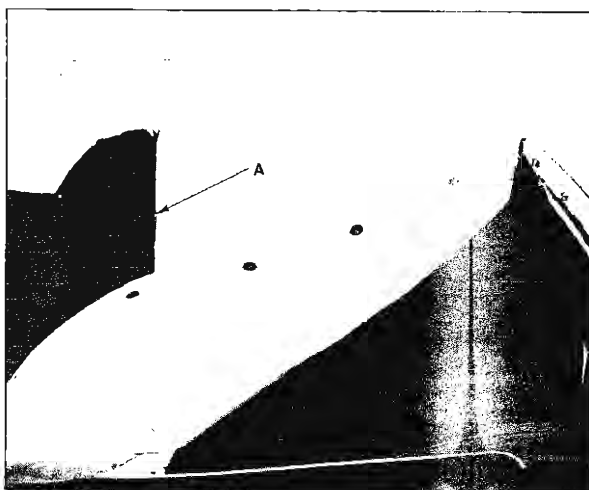

Fig. 21-14 Top Boot Partially Installed
2. Place top boot in position over folded top and engage several boot fasteners to studs along rear molding. Then adjust boot to remove wrinkles by sliding forward edge of boot to right or left in retainer (Fig. 21-14).